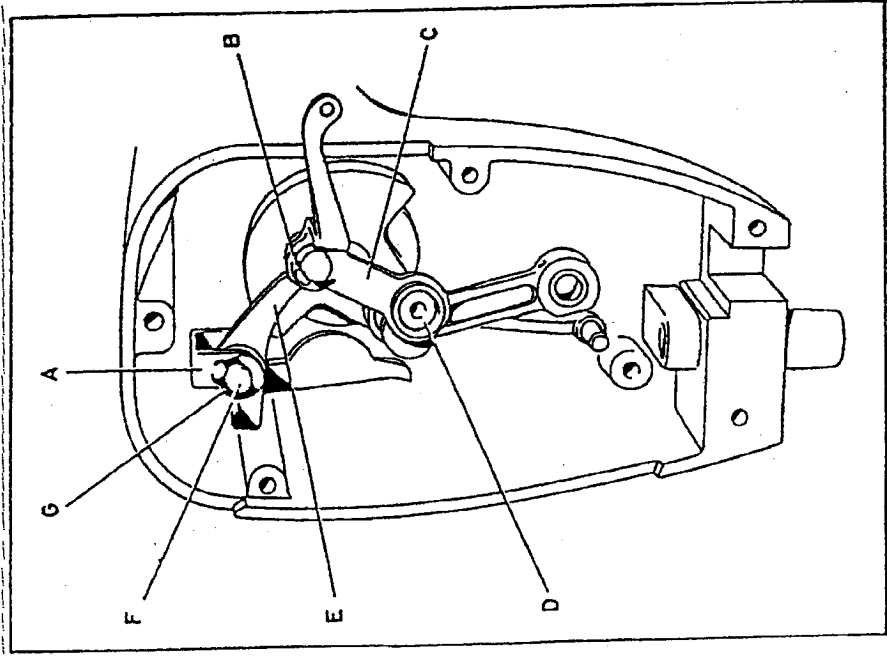

Fig. 16
Disassembly (fig. 16)
- insert finger A for darning (fig. 16) on pin F, together with its small return spring and take up lever E;
- Insert Benzling ring on pin F (fig. 16), between the take up lever and the finger for darning;